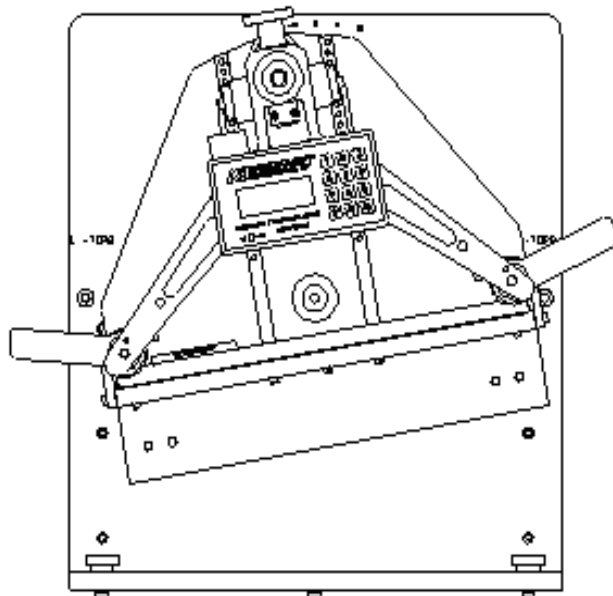

Fig. 3
- 6) The next calibration screen will have you set the calibration stand to -10°. (Fig. 3)